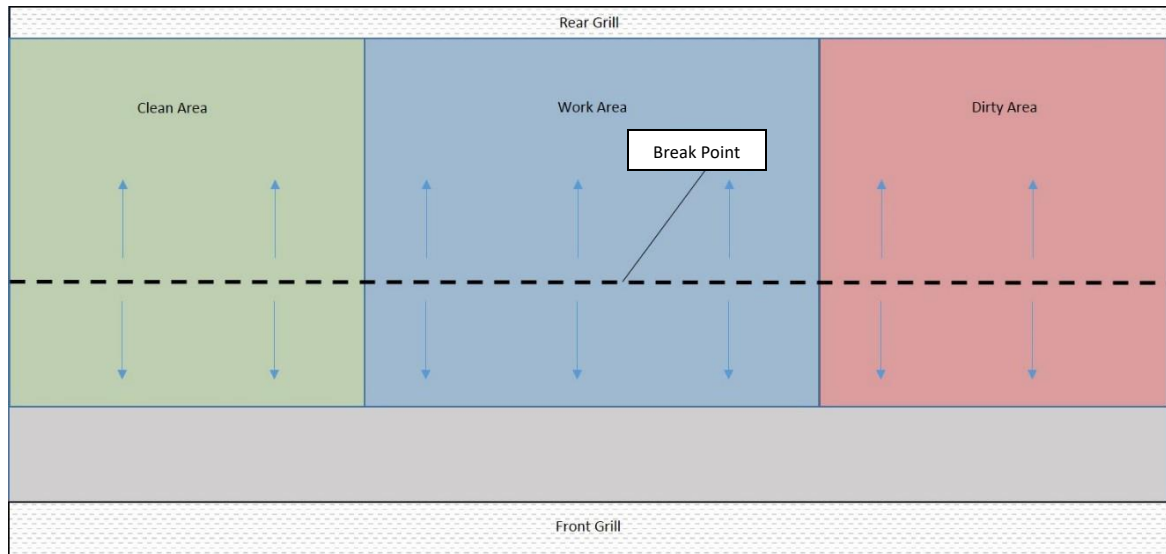

Figure 1: BSC workspace setup. Work should be performed at or behind the break point, from the clean area to the dirty area.
- a. Active work should flow from clean to contaminated areas across the work surface. See Figure 1.